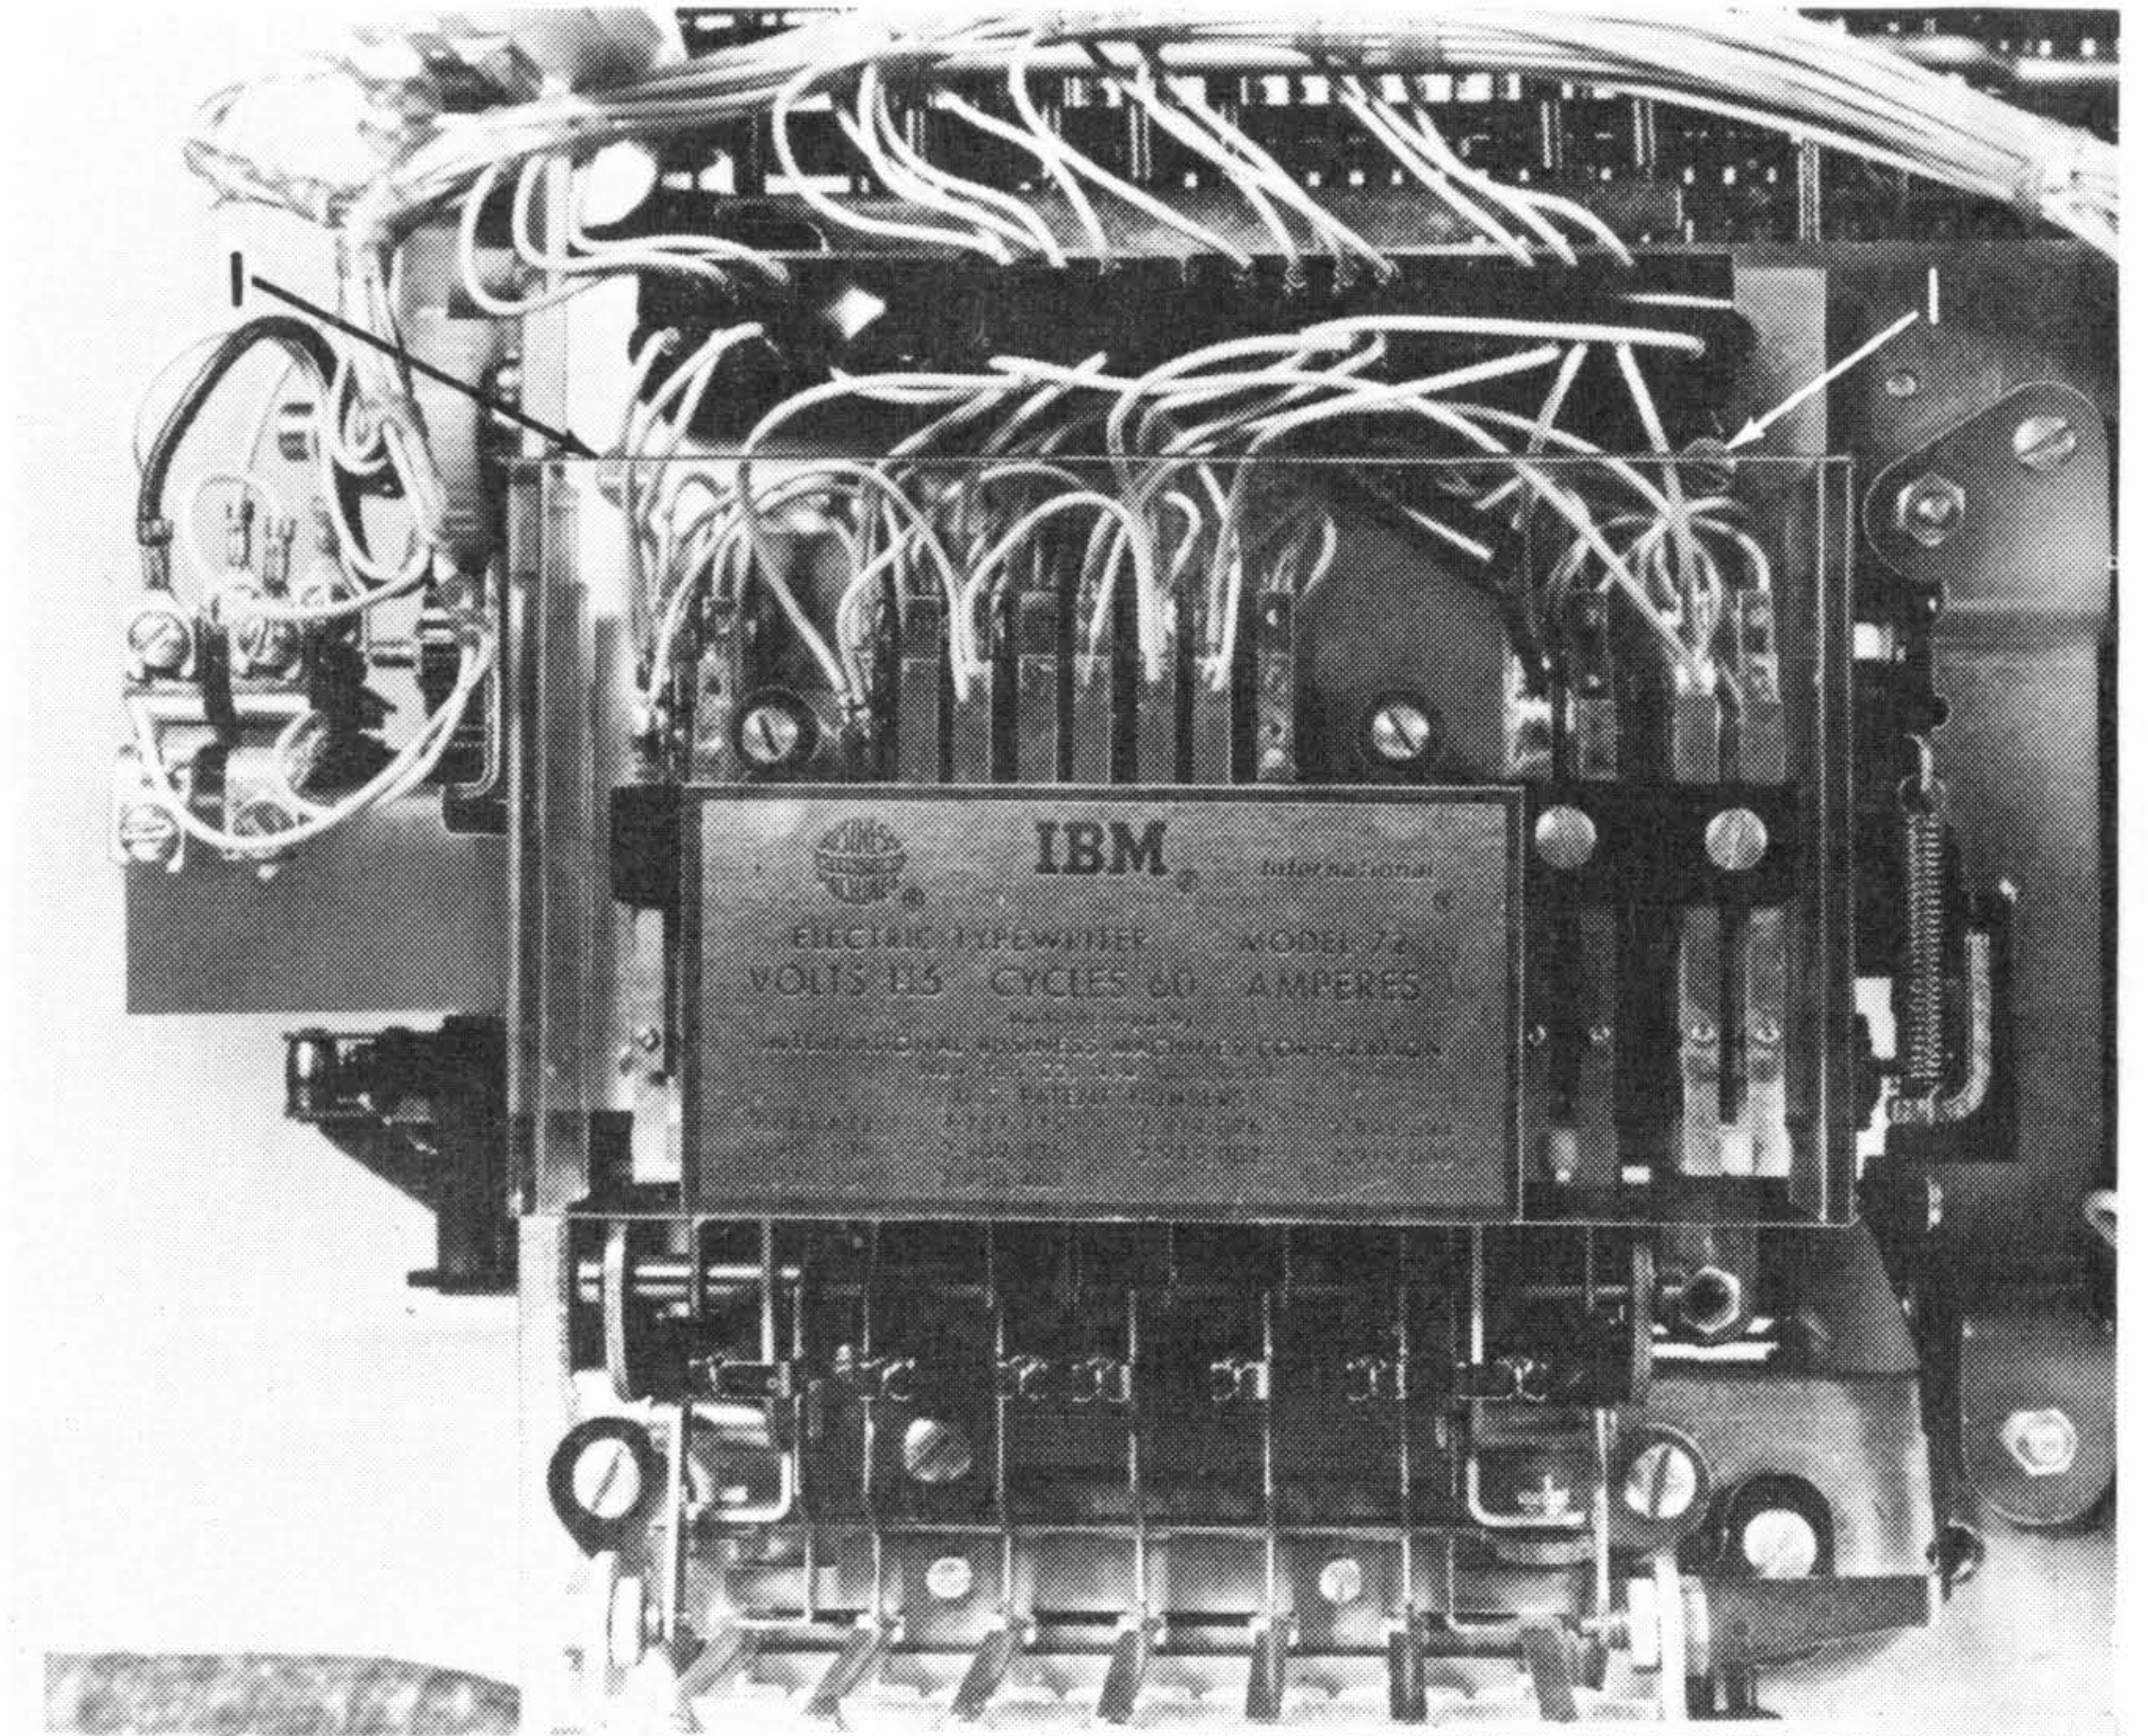

Figure 37. Latch Pusher Removal
1. Remove the two screws (#1, Figure 37) that hold the contact plate to the frame. Remove the contact assembly, holding it to the front with a rubber band.